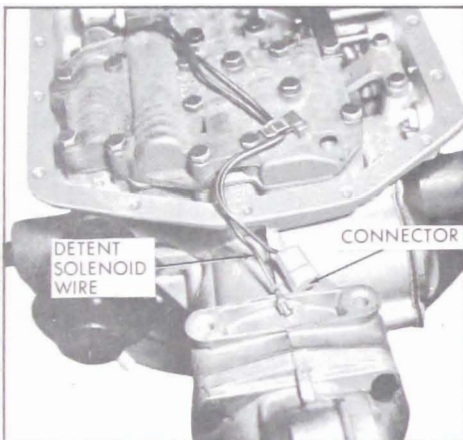

Figure 5-344
10. Install detent solenoid wire to connector. See Figure 5-344.